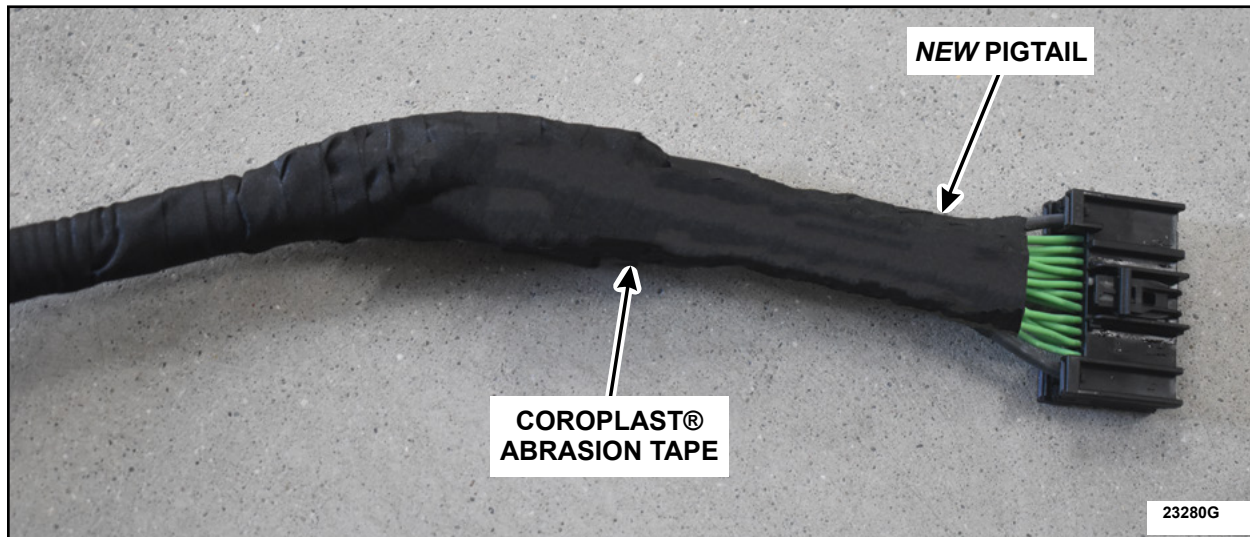

FIGURE 11
25. Install the convolute from the original connector to the *new* pigtail wiring the and wrap using Coroplast® 837 abrasion tape or equivalent. See Figure 11.